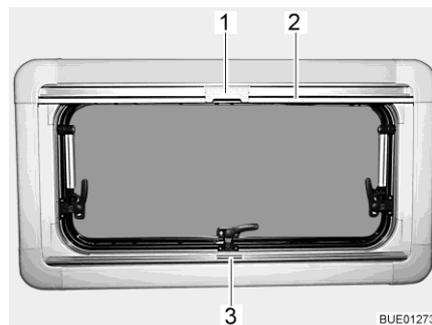

Fig. 78 Hinged window
- Grip the Roman shade in the centre of the holding bar (Fig. 78,3), pull it from the bottom to the top and then release it at the desired height. The Roman shade will stay at this height.
- Pull the insect screen down using the holding bar (Fig. 78,2), until it touches the holding bar of the Roman shade (Fig. 78,3).
- Clip the catch (Fig. 78,1) on the insect screen into the handle of the Roman shade.
- Push the catch (Fig. 78,1) on the insect screen inwards.
- Move the insect screen back slowly on the holding bar (Fig. 78,2).